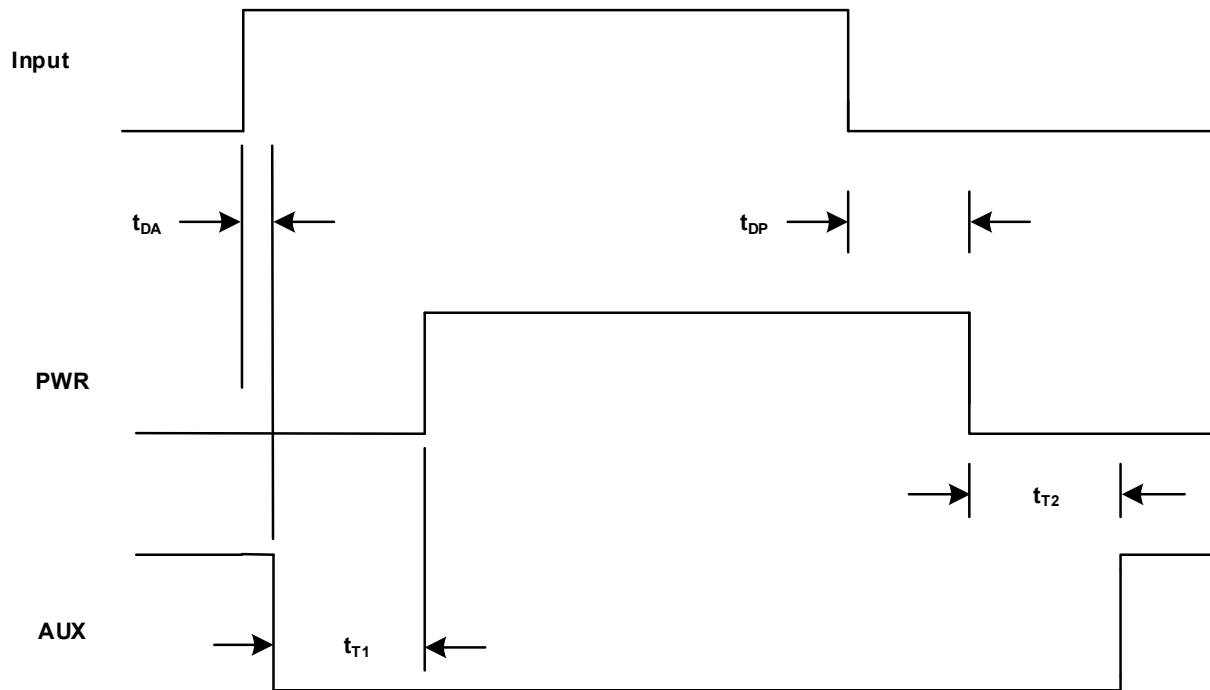

Figure 4. Timing Diagram
- T1 delay and T2 delay are defined as the time between the 50% transition point of AUX (PWR) and the 50% transition point of PWR (AUX) with no capacitive load on either output (Figure 4).
- Propagation delays (t_{DP} and t_{DA}) are measured from the 50% point of the input signal to the 50% point of the output signal's transition with no load on the outputs (Figure 4).